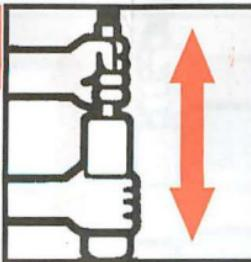

FIG. 1
**1** The shock absorber must be manually activated immediately prior to installation on the vehicle. It must be opened and closed through the entire stroke while in the vertical position with the rod side up. This action will get rid of any air or gas bubbles which may have formed in the pressure tube during storage. This operation must be repeated several times, until the shock absorber feels uniform, without presence of vacuum. (Fig. 1)